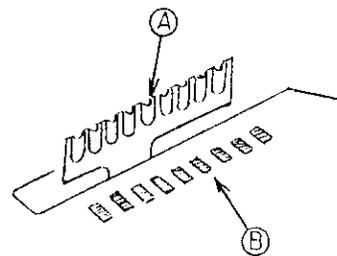

Fig.93
- 2) After the bending of the FPC, solder the parts (A) and (B). (See Fig.93)